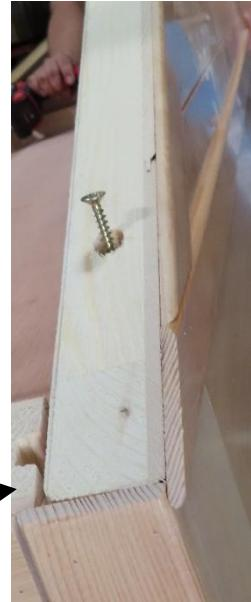

Figure 7
1. Locate the two triangular OUTER ROOF PANEL supports. Use the provided screws to screw the triangular OUTER ROOF PANEL supports to the FRONT WALL PANEL and REAR WALL PANEL. (see Figure 7)